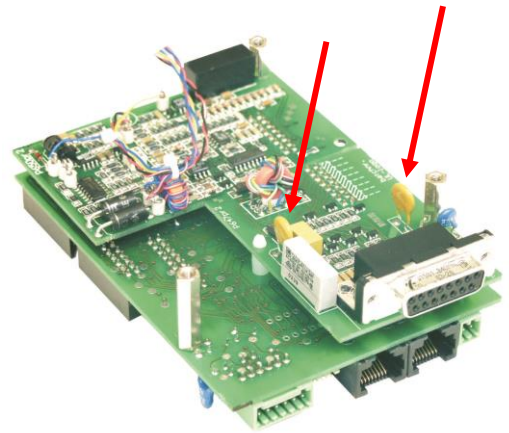

fig 6 - 1
- Check fuse F27\_2 in series with Ø (pin 8 of CON E), see fig. 6 - 1. To check the fuse, measure the voltage between Ø and the minus output, a high voltage means too much current flowing through the fuse. F27\_2 = 650 mA, self resetting.